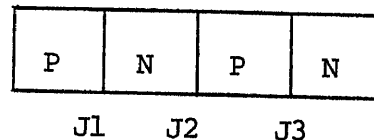

FIGURE 5
16. Refer to the SCR structure block illustration (Figure 5). It can be seen that there are three PN junctions. These junctions are referred to